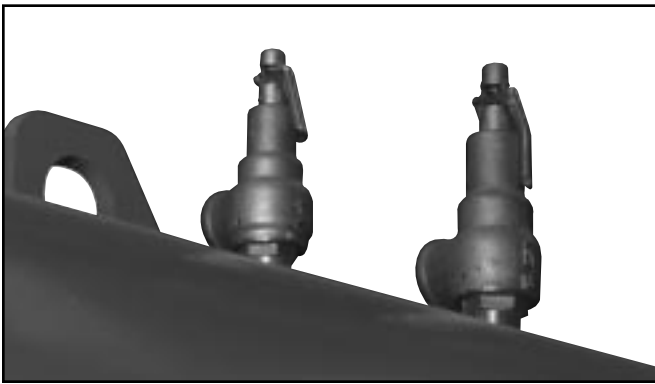

Figure: 1-9 Safety Valves
11. Safety Valve(s) (Figure 1-9): Prevent buildup over the design pressure of the pressure vessel. The size, rating and number of valves on a boiler is determined by the ASME Boiler Code. The safety valves and the discharge piping are to be installed to conform to the ASME code requirements. The installation of a valve is of primary importance to its service life. A valve must be mounted in a vertical position so that discharge piping and code-required drains can be properly piped to prevent buildup of back pressure and accumulation of foreign material around the valve seat area. Apply only a moderate amount of pipe compound to male threads and avoid overtightening, which can distort the seats. Use only flat-jawed wrenches on the flats provided. When installing a flange-connected valve, use a new gasket and draw the mounting bolts down evenly. Do not install or remove side outlet valves by using a pipe or wrench in the outlet.
7. Safety Valve(s) (Figure 1-9): Relieves the boiler of pressure higher than the design pressure or a lower pressure, if designated. Relief valves and their discharge piping are to be installed to conform to ASME Code requirements.